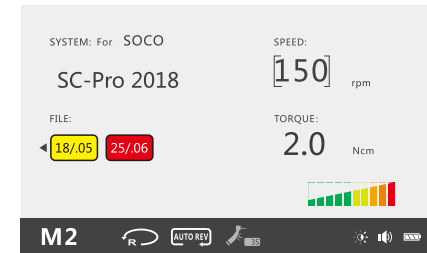

Fig.27 ADJUST SPEED
- When the user changes the parameter, its value will prompt [], as shown in Fig.27;